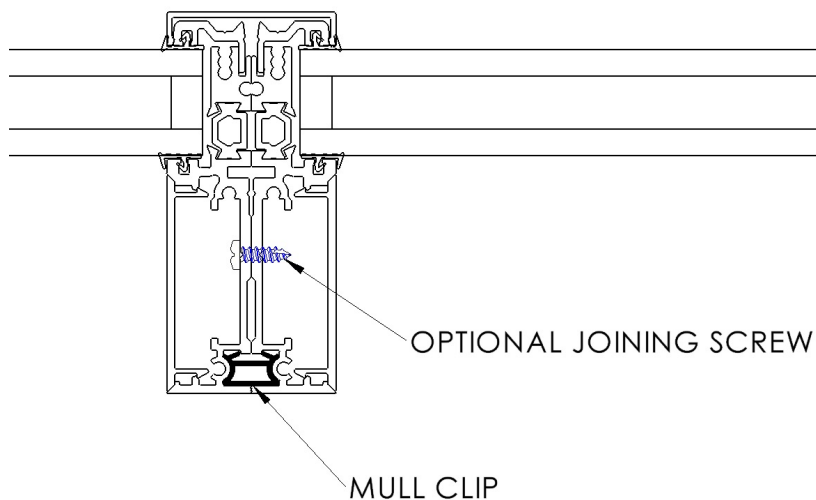

Figure 4
2. Begin to join the two (2) window units together until the frame members come into contact and the mull clip is no longer visible.
3. Verify that the reveal is even from top to bottom. If necessary, use quick clamps with tips protected, and squeeze the units together for an even reveal. Additional #10 x 1/2" joining screws shall be added between the two units, at 16" on center location, as shown in Figure 4 for units with a horizontal mull greater than 96".